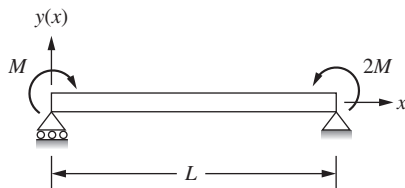

Figure P8.33 A simply supported beam for problem P8-33.
- 8-33.** A simply supported beam is subject to a moment M at $x = 0$ and a moment $2M$ at $x = L$, as shown in Fig. P8.33.